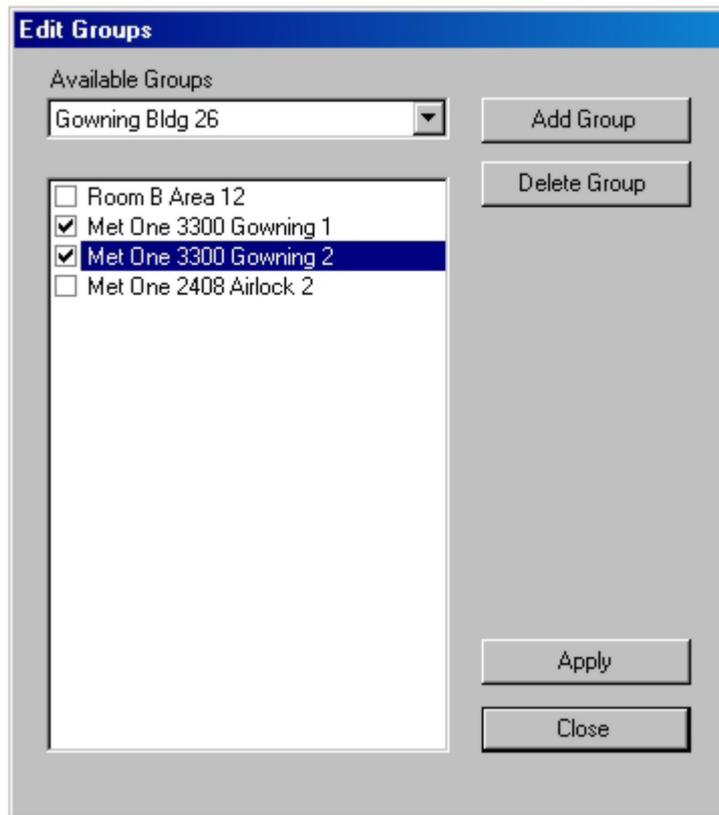

Figure 16 Edit Groups screen—group with associated particle counters
2. Select a group from the drop-down list. All connected particle counters are shown (Figure 16)